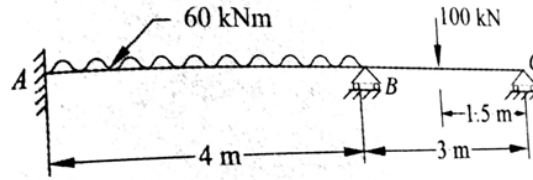

Figure 7
5. Analyse the continuous beam shown in Figure 7 using flexibility method. [14 M]